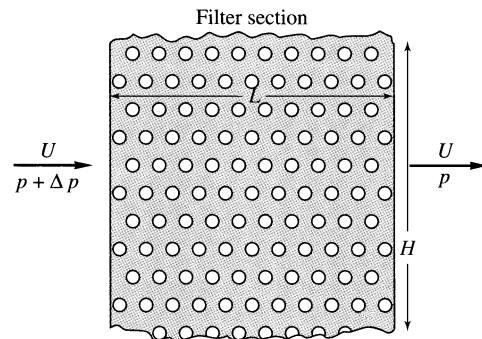

Fig. P7.61
**7.61** A filter may be idealized as an array of cylindrical fibers normal to the flow, as in Fig. P7.61. Assuming that the fibers are uniformly distributed and have drag coefficients given by Fig. 7.16a, derive an approximate expression for the pressure drop  $\Delta p$  through a filter of thickness  $L$ .